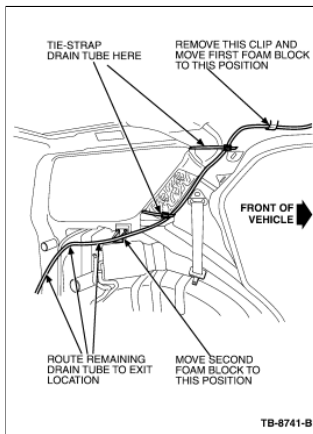

Figure 3 - Article 07-3-6
3. Pull rear grommet out and disconnect remaining four (4) clips.
4. Move the two (2) existing foam blocks to new locations. (Figure 3)
5. Reroute and attach front of drain tube based on vehicle equipment. (Figure 3)
- a. For vehicles equipped with rear A/C, using a standard tie strap(s) (may need to use two (2) depending on length of strap) attach drain tube to the top of the auxiliary A/C duct. Pull the drain tube taught before fully securing. Using another tie strap(s), attach drain tube to the base of the B-pillar A/C duct, near seat belt retractor. Be sure to pull the drain tube taught before fully securing.